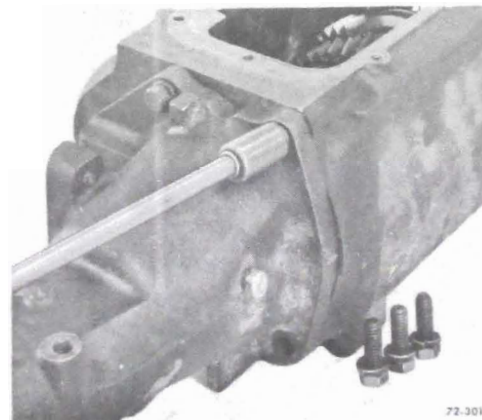

Figure 72-341 Removing Extension to Case Bolts
9. Align extension housing, install housing-to-case bolts (5) and torque them to 45 lb. ft. See Figure 72-341.
11. Install snap ring to main drive gear stem and install main drive gear bearing retainer and its gasket to case. Install and torque retainer bolts (4) and lock washers (4) to 20